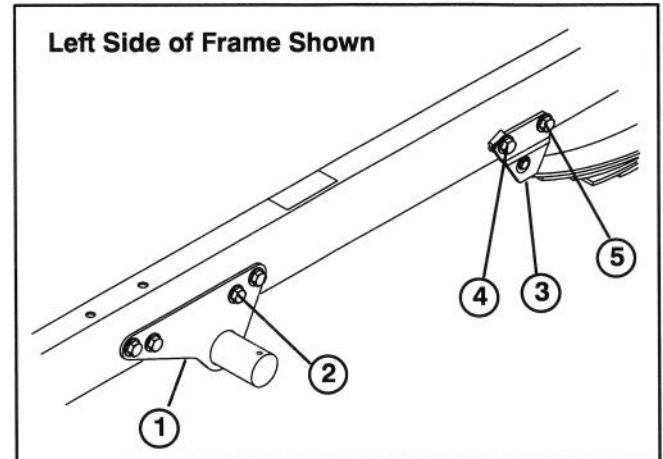

Figure 9
30. Remove the flange screw and locknut, shown in figure 9, securing each side of engine frame to vehicle frame.
32. Remove the front flange screw and locknut securing right leaf spring mount to side of vehicle frame (Fig. 9).
34. Remove the rear flange nut and locknut securing left leaf spring mount to side of vehicle frame (Fig. 9).